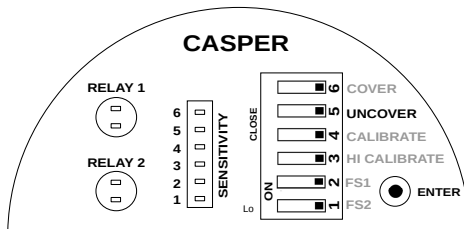

Figure 27: Saving Uncover Delay
- Uncover delay is entered, but not saved. To save and test the uncover delay, set the UNCOVER switch back to OPEN position as shown in figure 27.